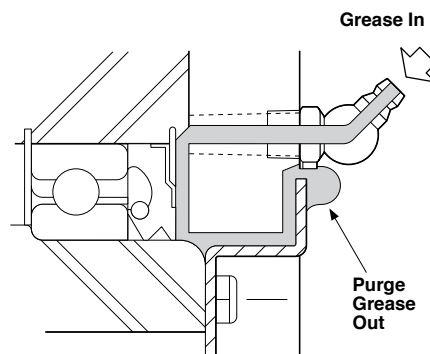

Figure 3
8. Grease auxiliary seals. These labyrinths are built into each Holdback to minimize the harmful effects to the oil seals from dusty or abrasive atmosphere. For instructions on regreasing these seals, follow instructions in (Figure 3).